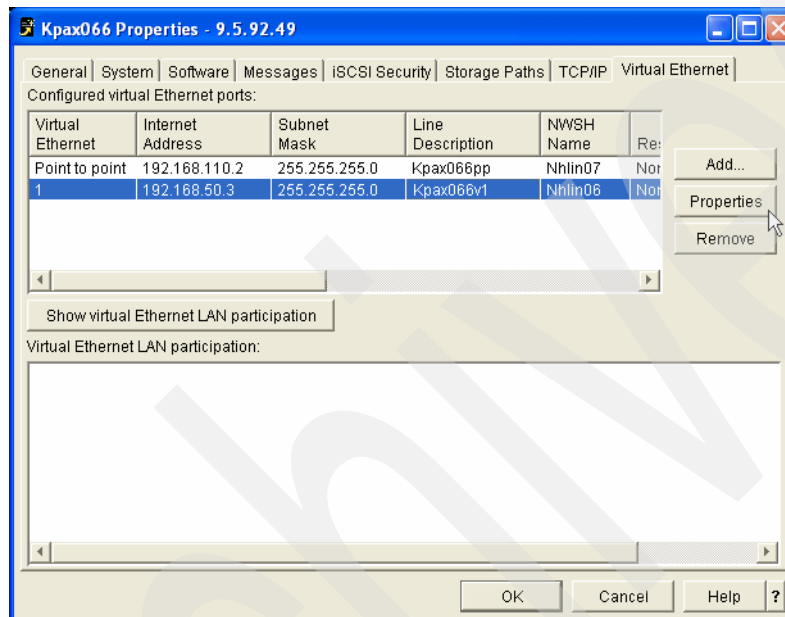

Figure 9-69 Redeploying a Virtual Ethernet LAN to a different target HBA - 1
5. Select the **Virtual Ethernet** tab as shown in Figure 9-69. You see all the Virtual Ethernet LANs deployed on this hosted server. In this example, Virtual Ethernet line KPAX066V1 is currently deployed to NWSH (target HBA) NHLIN06.